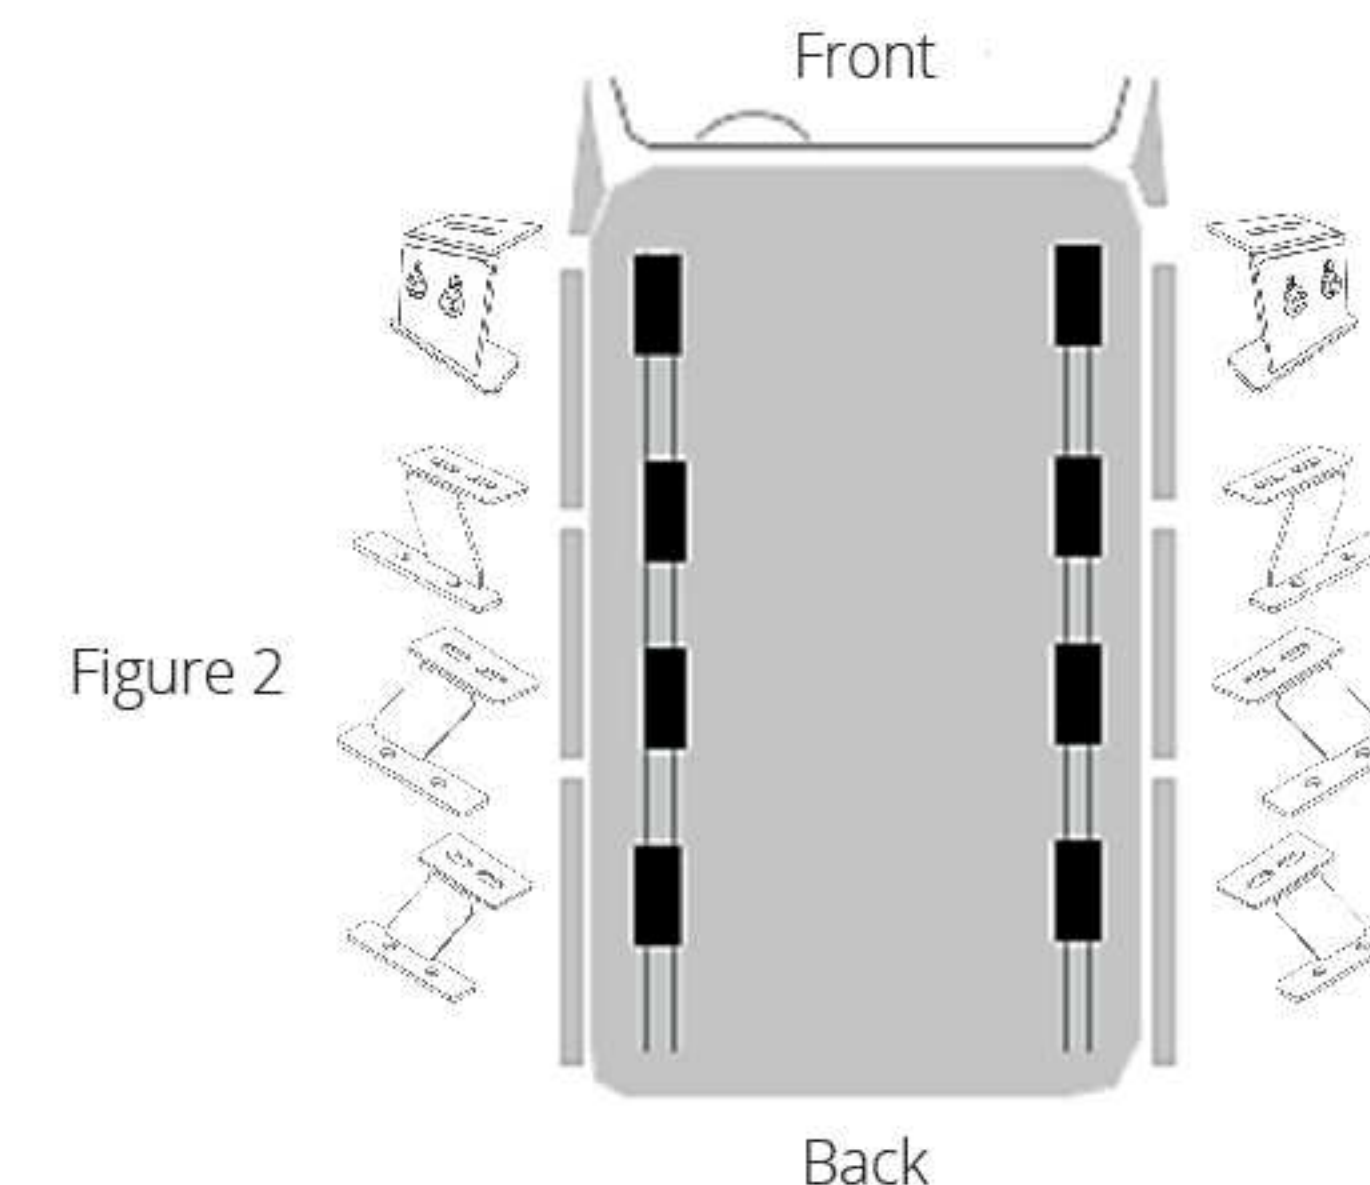

Figure 2
- 2 Identify the 6 mounting brackets (D to I) and the adjustable brackets pair (B & C) and place the mounting brackets into the mounting slot of the car. See figure 2 for location and orientation of brackets. Once you have them in place, peel off the labels.